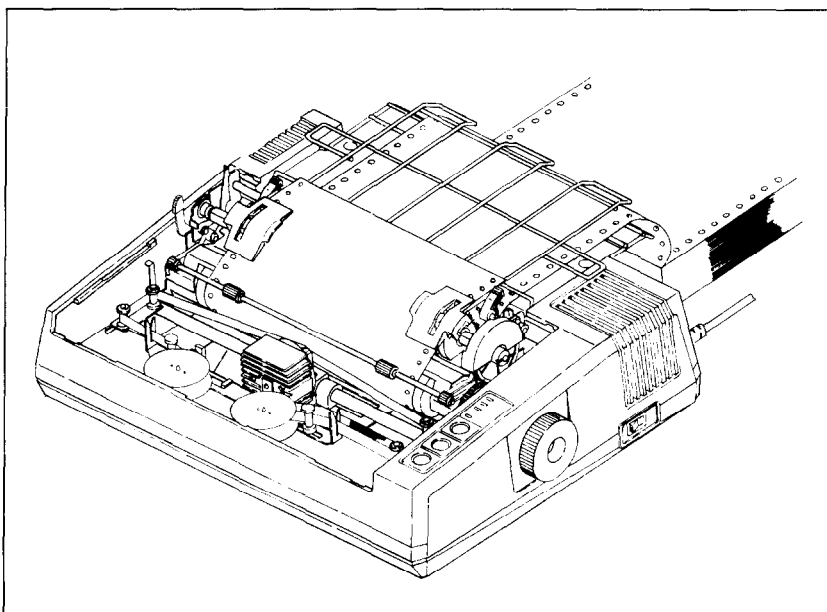

Figure 1-10. Delta ready to run with sprocket-feed paper.
11. When holes fit snugly over the nubby teeth in both sprockets, close the tractor covers and snap the clamp levers back into their locked position (Figure 1-10).